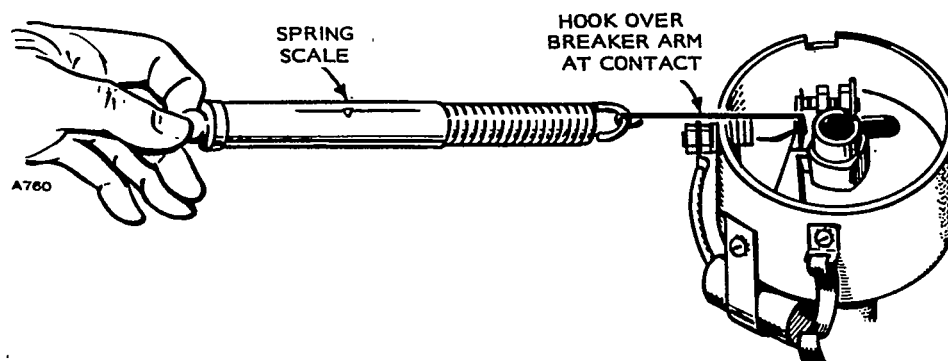

FIGURE 44. CHECKING BREAKER POINT SPRING TENSION
Using a spring scale, measure the tension of the points as they break contact (Figure 44). Tension should be 17 to 20 ounces. If it is greater, it causes excess wear; if less, it causes contact bounce. To adjust tension, refer to *Distributor Assembly*.
7. Check tension of breaker spring with a spring scale hooked on arm at contact and held at right angles to contact surfaces (Figure 44). Tension should be 17 to 20 ounces. Adjust it by loosening screw holding end of contact spring and installing spacing washers or sliding end of spring in or out.